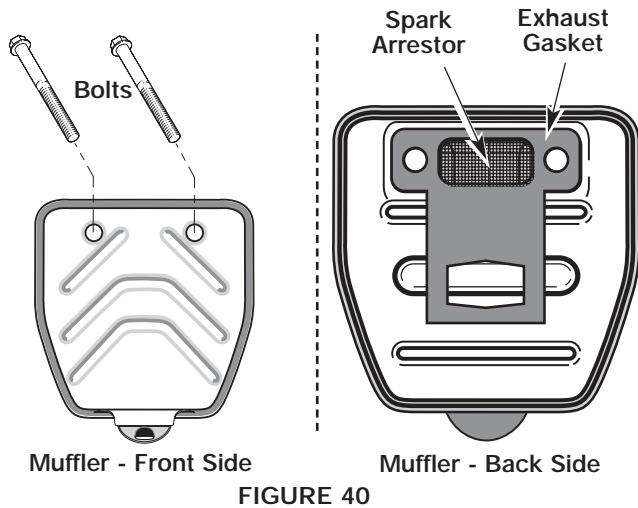

FIGURE 40
2. Locate muffler front and the two (2) bolts securing it to the engine, Figure 40. Remove the two (2) bolts using a flatblade screwdriver or 5/16-inch socket or nut driver. Pull muffler off of the engine.
3. Turn muffler over to the back side and locate the exhaust gasket. Remove the muffler exhaust gasket from the muffler, Figure 40.
7. Place the exhaust gasket against the muffler's back side. Align exhaust gasket bolt holes with the bolt holes in muffler. While holding the exhaust gasket in place, insert bolts into muffler's front side, Figure 40.